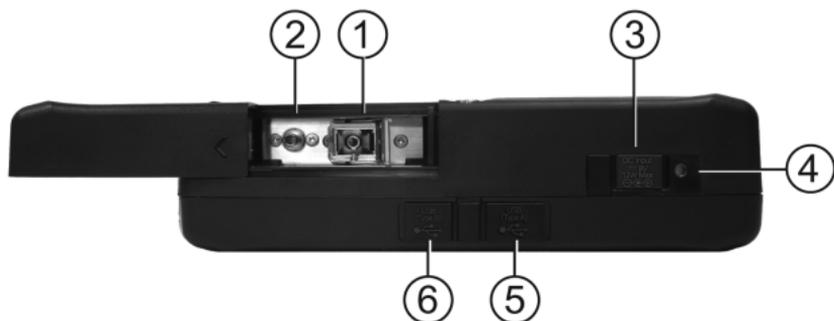

Figure 2-5: MU909011A – Top Panel – Measurement Port Cover opened
Figure 2-5 on page 2-11 provides an example of a typical unit's top panel.
1. Open the cover over the DC input port, located on the top connector panel of the unit (see Figure 2-5 on page 2-11) and then attach the jack from the AC charger/adapter to the port.
2. Open the cover over the DC input port, located on the top connector panel of the unit (see Figure 2-5 on page 2-11) and then attach the jack from the AC charger/adaptor to the port.
The VFL port (see item 2 in Figure 2-5 on page 2-11) provides access to the optional Visual Fault Locator (VFL) function. This port is equipped with a 2.5 mm universal fiber connector adapter which accepts the ferrule of most standard fiber connectors.
1. Slide the cover on the Measurement Port to the opened position. See Figure 2-5 on page 2-11.
The Measurement port (see item 1 in Figure 2-5 on page 2-11) is located on the top panel of the unit and is accessed by opening the sliding measurement port cover (see Figure 2-5 on page 2-11). This port, provides access for the Fault Locate application OTDR and the optional Optical Power Meter functions. The Measurement port is a universal optical connector, which requires an optical connector adapter.